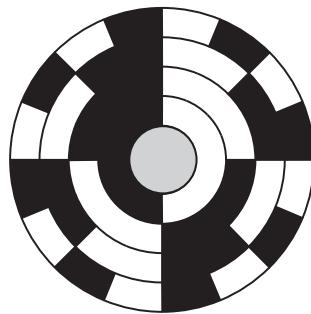

Figure Q8
8. Figure Q8 illustrates a coded disc for use in an optical rotary absolute encoder.